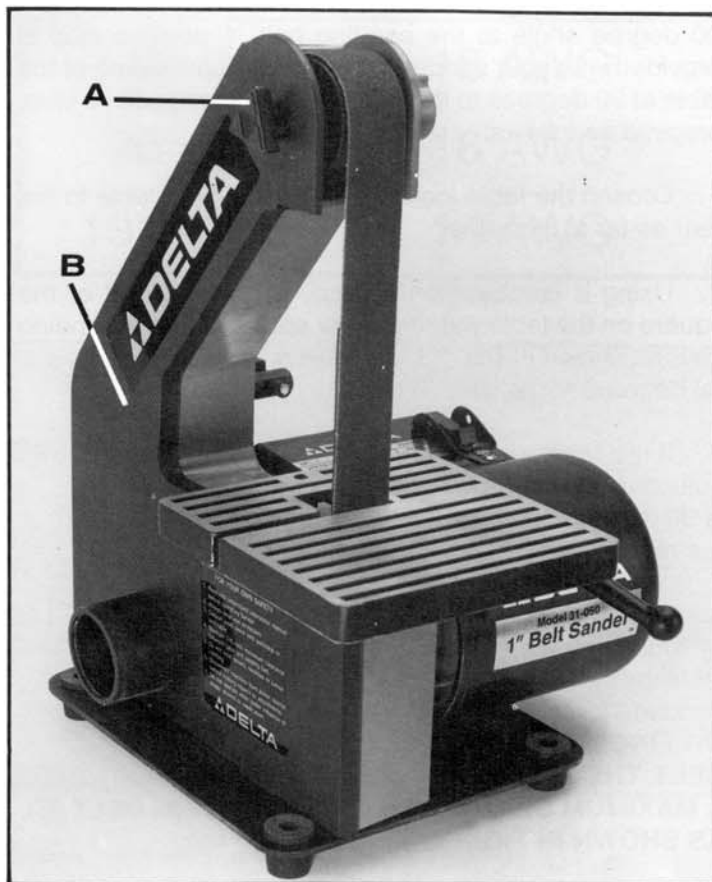

Fig. 16
1. Remove cover lock knob (A) Fig. 16, and remove side cover (B).